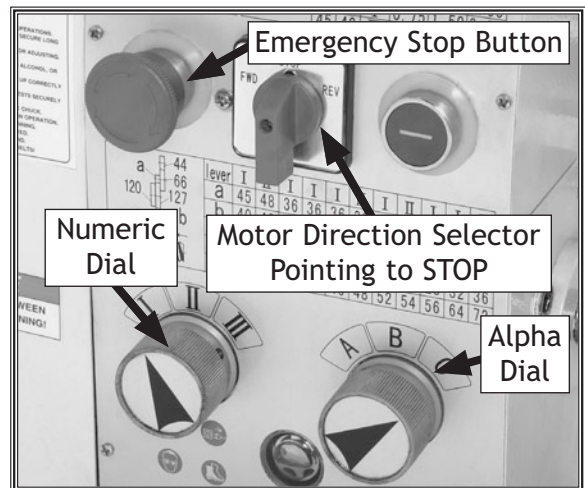

Figure 4. Headstock and gearbox controls.
4. Rotate the red emergency stop button (**Figure 4**) clockwise so it pops out, and make sure the motor direction selector points to **STOP**.
5. Move the numeric gearbox dial to **I**, and the alpha gearbox dial to **C** (see **Figure 4**).